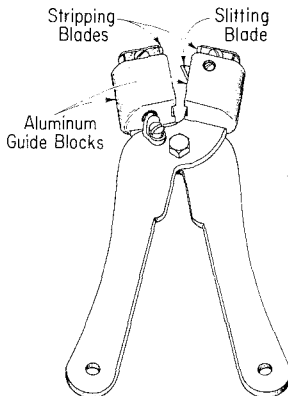

Fig. 1—Wire Slitter
2.01 The wire slitter (Fig. 1) consists of a pair of hinged steel handles to which are fastened guide blocks containing a steel knife for slitting the wire. A pair of grooved knives at the end of the tool are for stripping split wire ends.